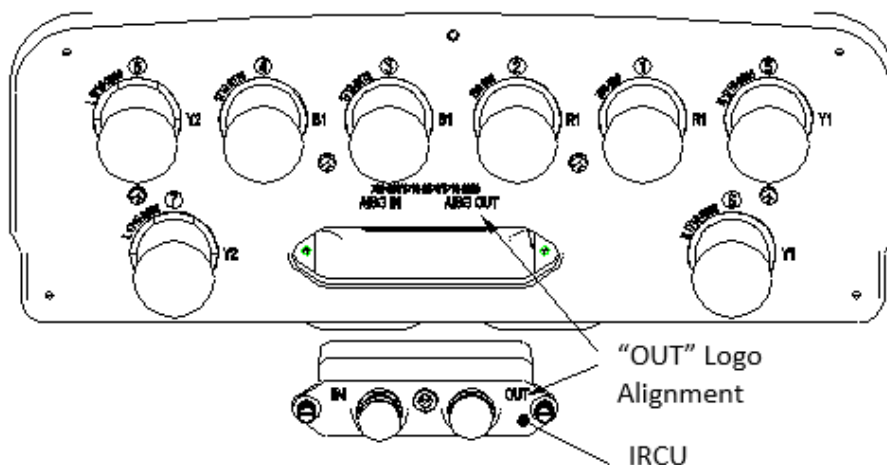

Figure 3-1 IRCU Installation
a) As shown in Figure 3-1, "AISG OUT" logo on Antenna cover need to align with IRCU "IN" and "OUT", then insert IRCU into antenna mounting slot.